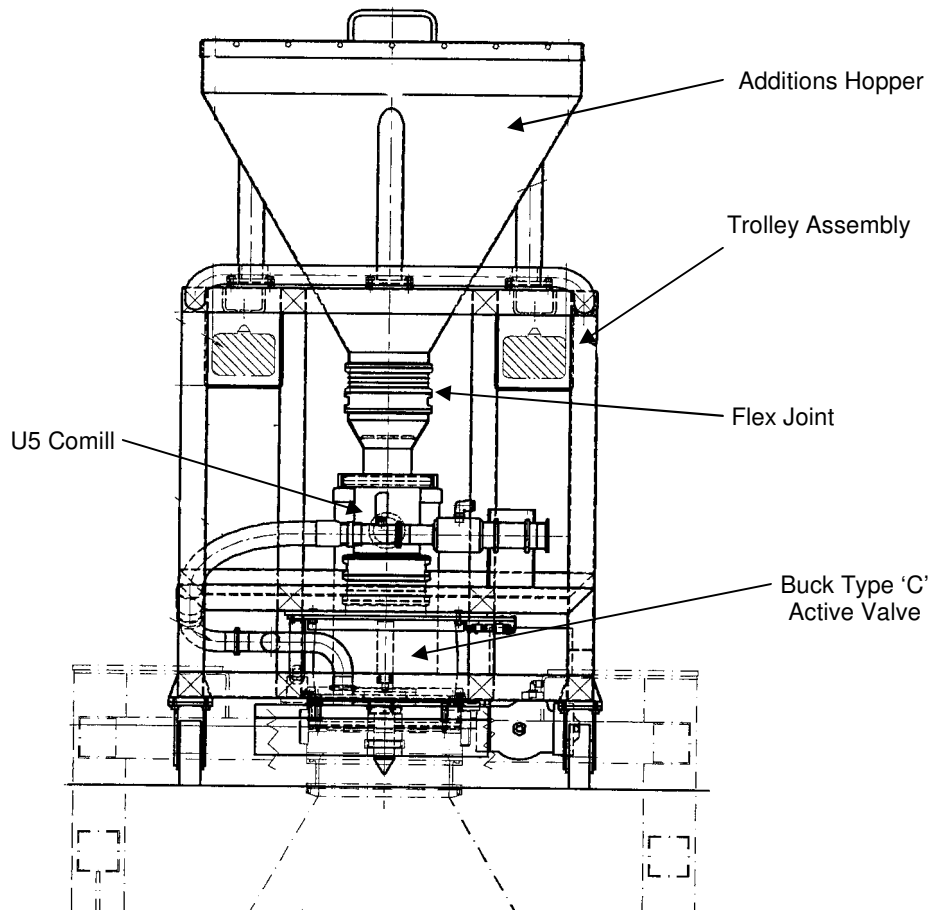

Fig 15 - Mill Assembly (G1951-M01)
1.2.3 Mill Assembly (Figs 15 & 16)